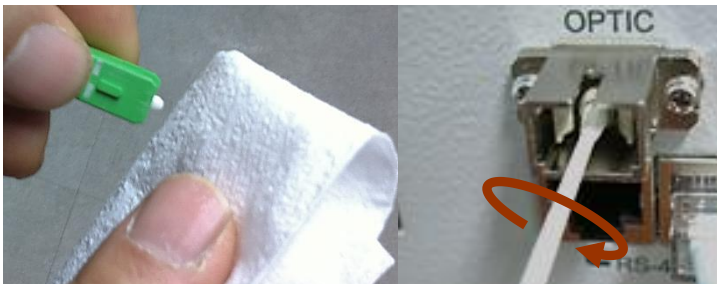

Figure 6-12 Optic Connector Cleaning (left) and Optic Port Cleaning (right)
- We recommend cleaning optic connector using a dry optical cleaning swab or tissue in a dry environment as needed. We recommend cleaning the optic connectors only if the expected optic loss is higher than the loss reported in the Web-GUI by 1.5dB. (Figure 6-12)